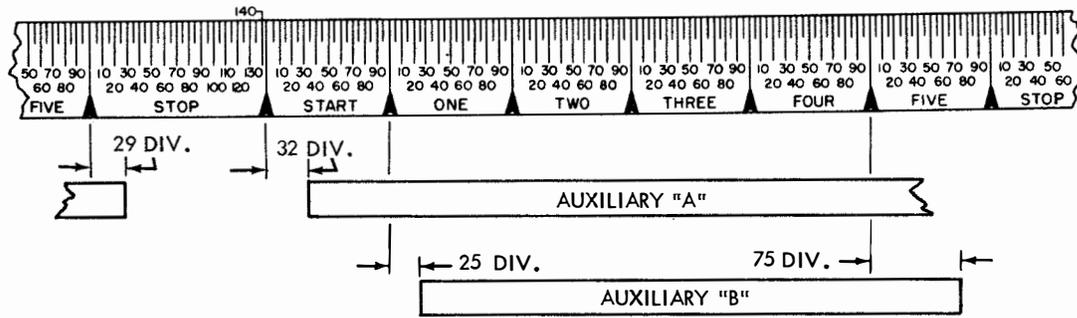

Figure 3 - Pulse Length Requirements for Auxiliary Contacts A and B
(1) Align the end of the stop pulse image with the 142 mark on the stop segment of the test-set scale.
(2) The distributor auxiliary contact A shall close at 32 ±15 divisions in the start pulse segment of the test-set scale and open at 29 ±15 divisions in the stop pulse segment of the test-set scale. (See Figure 3.)
(3) The distributor auxiliary contact B shall close at 25 ±15 divisions in the No. 1 pulse segment of the test-set scale and open at 75 ±15 divisions in the No. 5 pulse segment of the test-set scale. (See Figure 3.)